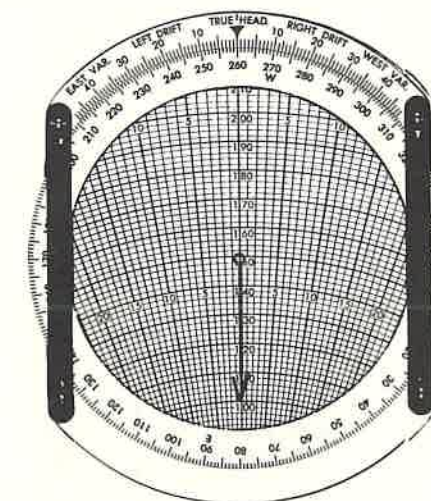

FIG. 3a
1. Plot Wind Velocity as in Fig. 3a.